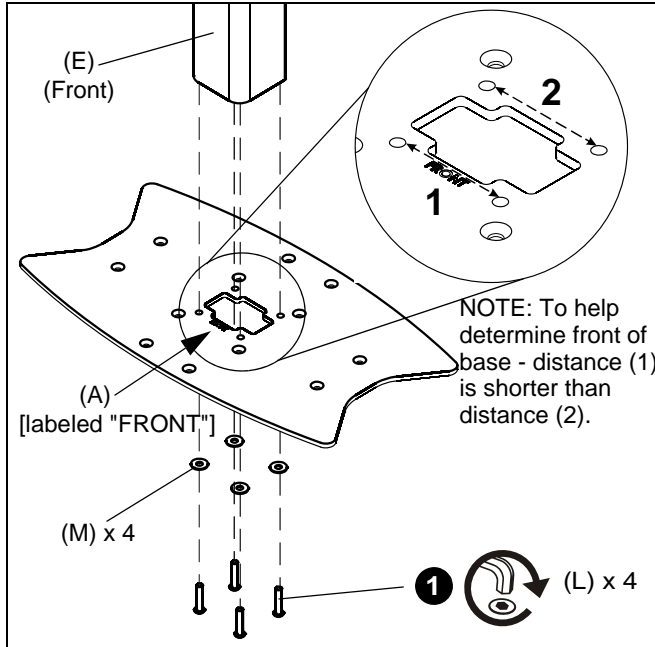

Figure 1
1. Attach top base section (A) to the center post (E) using four 5/16-18 x 1-1/2" buttonhead cap screws (L) and four 5/16" flat washers (M). (See Figure 1)
NOTE: Ensure that post (E) front is placed to the front of base section (A). Check for "FRONT" on base section (A). (See Figure 1)